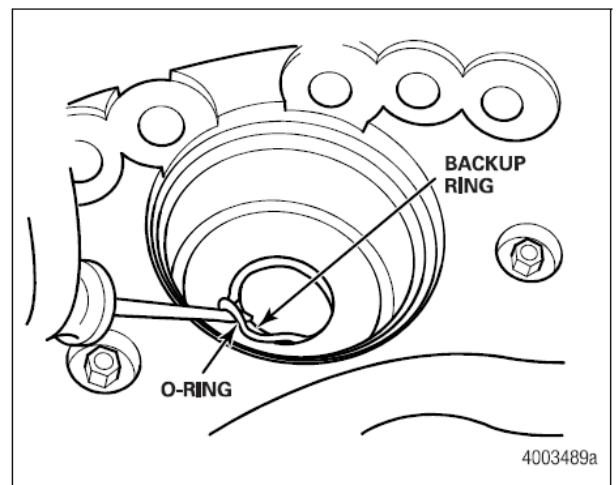

Figure 3.10
- Use a suitable tool to remove the 2.5-inch (63.5 mm) diameter parking piston O-ring and backup ring from the caliper housing. Discard the O-ring and backup ring. Figure 3.10.